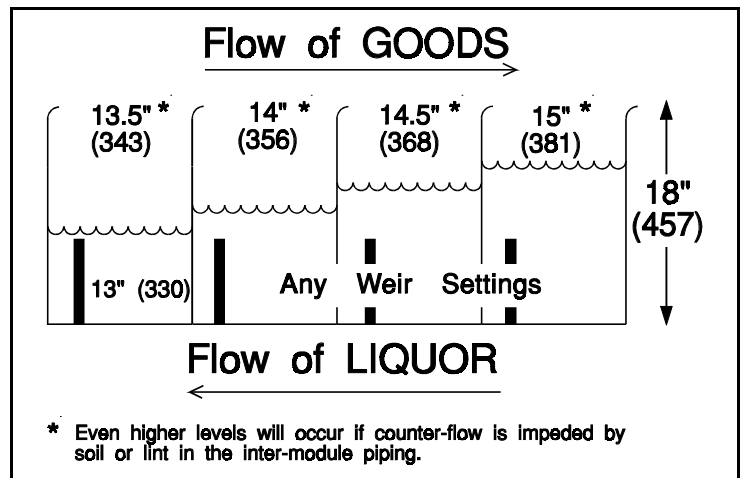

FIGURE 8 (MSSMD405BE)
2. A module's level will be at least as high as the high-est downstream weir within its zone (FIGURE 8).